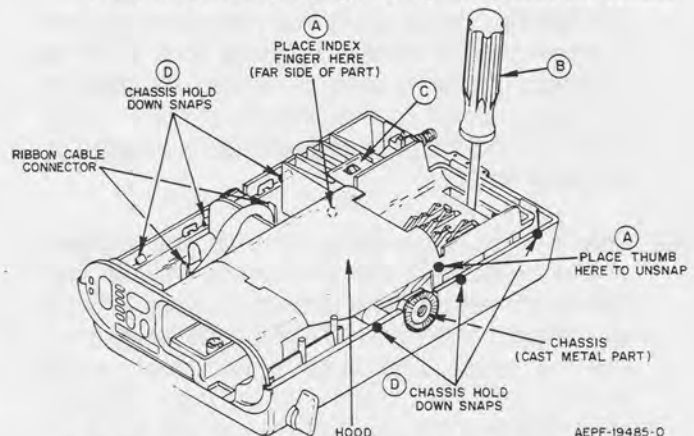

Figure 8. Removing the Insides of the Console
Refer to the exploded view, exploded view parts list, and Figure 8 for steps f through j.
- (g) Remove the hood by locating the four hold-down snaps which extend through the chassis. Place your thumb and index finger around the hood (Figure 8, locations A) and squeeze the hood. This will enable you to pivot the front portion of the hood away from the chassis, clearing the snaps in the middle of the part.
- (h) Insert the small flat-bladed screwdriver through the rear-most opening in the hood (Figure 8, location B), wedge the blade between the hood and the chassis, and twist the screwdriver slightly while pulling upward on the hood in that area. Repeat this step for the remaining snap.
- (i) While gently squeezing the transistor clip against the heat sink fins on the chassis, loosen the clip (Figure 8, location C) by prying and lifting the clip away from the heat sink fins' retaining tab.
- (j) Separate the remaining assembly from the bottom housing and shield by locating the six hold-down snaps (Figure 8, locations D) which